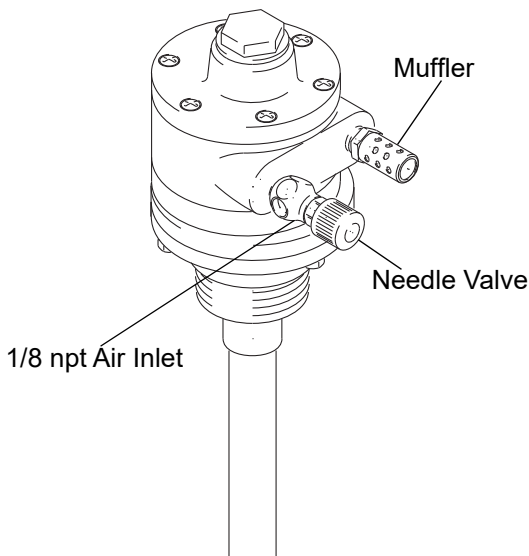

FIG. 2: Agitator Installation
2. Position the air motor so the air line can easily be attached to the needle valve's 1/8 npt inlet, without obstructing any other system components. See FIG. 2.
3. Attach a bleed-type air shutoff valve (SV) for main air shutoff. Optionally, attach an air line disconnect valve. Order part number 208536, coupler and 169969 fitting, quick disconnect air line fitting.